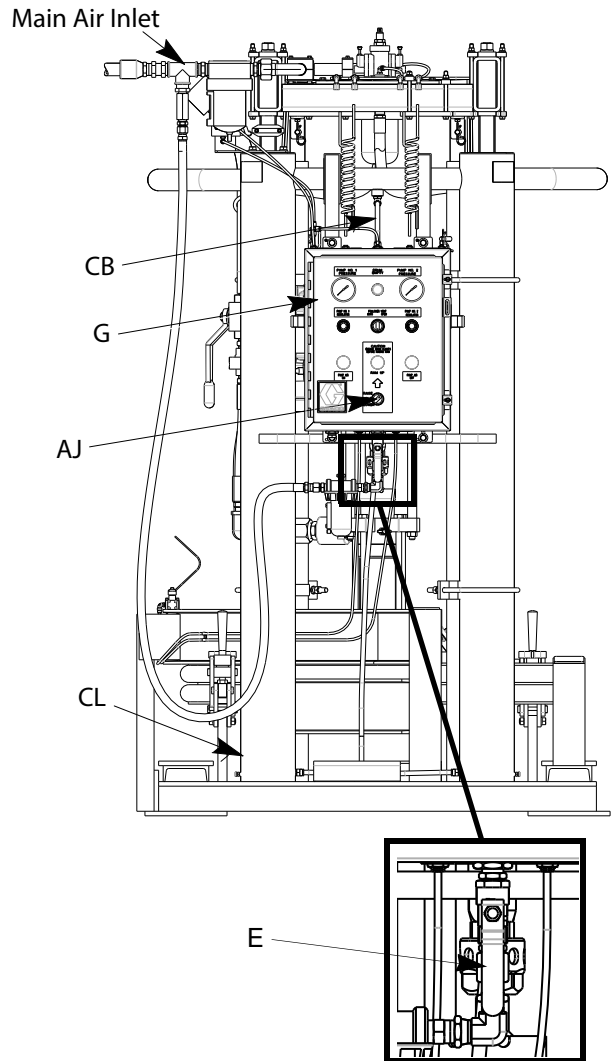

FIG. 11
At the Pneumatic Logic Panel (G) (FIG. 11), perform the following steps:
1. Close the Main Air Inlet Valve (E). See FIG. 11.
3. Once both safety hitch pins (806) are secured, turn off all air to the system by closing the main air shutoff valve on the header and follow your facility's pre-established lock-out/tag-out procedures. See FIG. 11 on page 28.